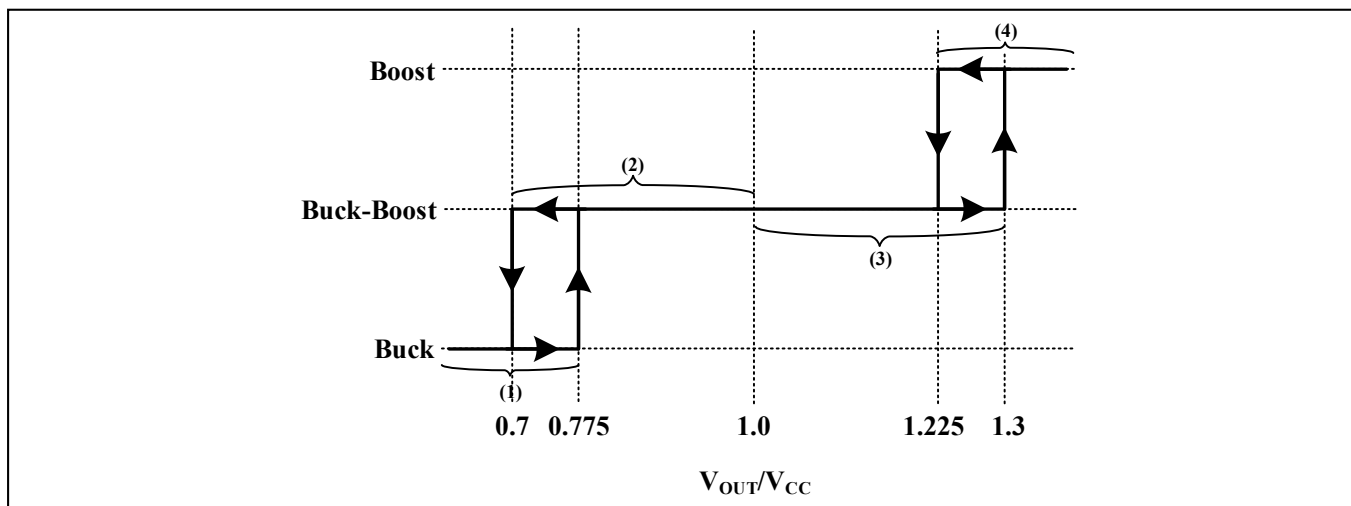

Figure 29 Operation Regions vs. V_{OUT}/V_{CC} Voltage Ratio
input V_{CC} , power output V_{OUT} , and ground. The current sense resistor R_{CS} connected to CS pin provides inductor current information for both peak current detection of Boost control loop and reverse valley current detection of Buck control loop. The input current sense resistor R_{INSEN} connected to V_{CC} and INSENSE pins is a secondary protection to protect input over current fault. The operation region is decided by the V_{OUT}/V_{CC} voltage ratio. The power switches are properly controlled to smoothly transition between regions. The hysteresis is added to prevent jittering between regions. As Figure 29.
As Figure 29, there are three operating states decided by the V_{OUT}/V_{CC} voltage ratio: (1) the operation mode is in constant ON-Time Buck region, (2) and (3) the operation mode is in constant ON-Time Buck and peak